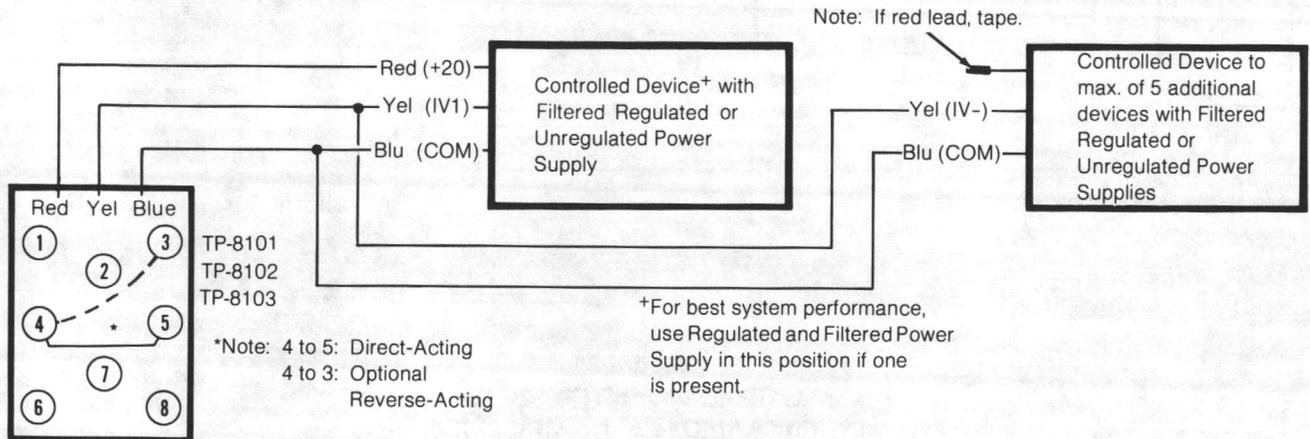

Figure 4
1. Wiring for the TP-8101, TP-8102 and TP-8103 is shown in Figures 4 and 5. See Figures 6 and 7 for TP-8124 and TP-8125 typical wiring.